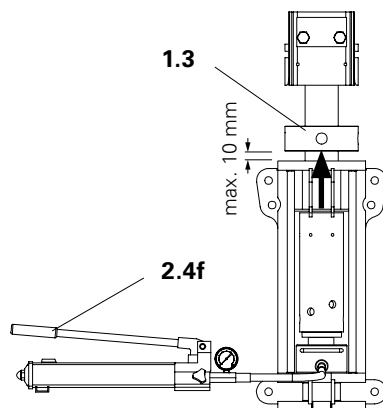

Fig. 25
4. Raise hydraulic cylinder by means of pump lever (2.4f) until spindle nut is relieved. (Fig. 25)
5. Turn spindle nut (1.3) with Mounting Shaft VST clockwise by 10 mm. (Fig. 25)